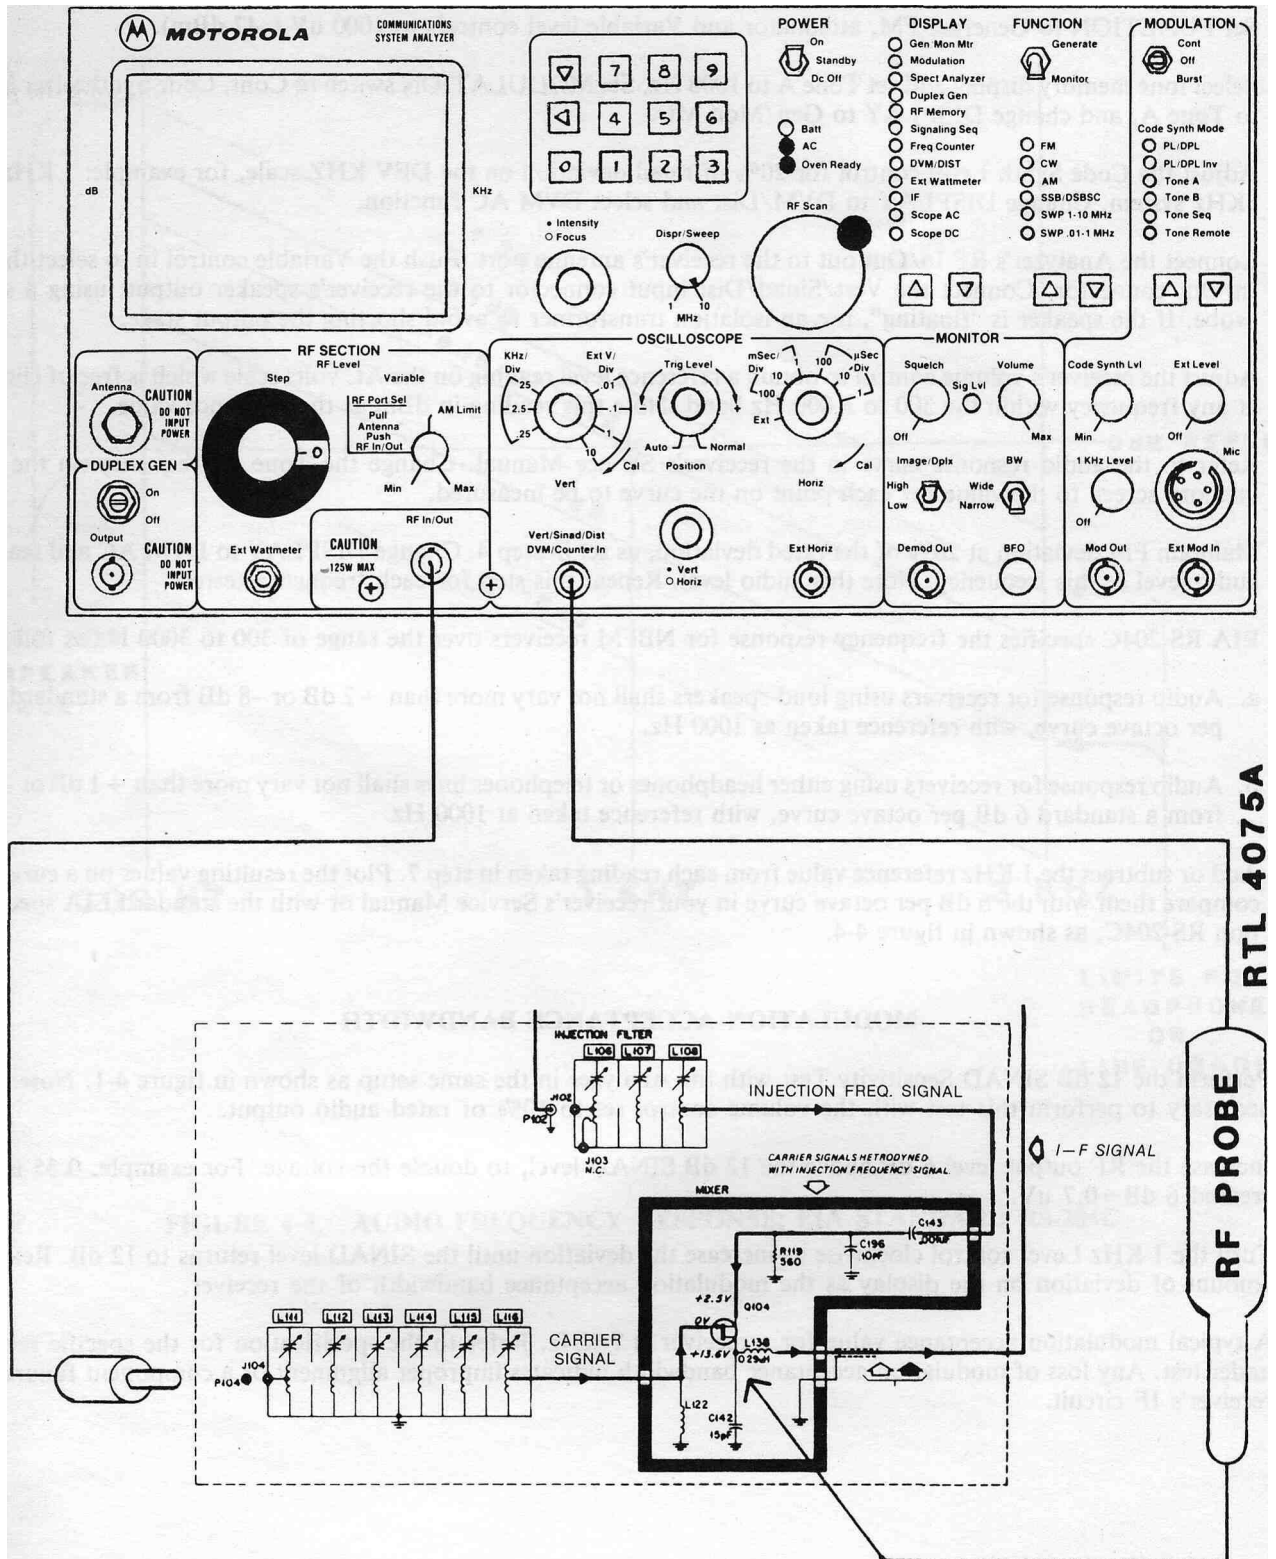

FIGURE 4.5. PROBE SETUP
1. Connect the Analyzer's RF In/Out to the antenna connector of the receiver under test. Connect the Analyzer's Vert/Sinad/Dist to the RF probe. Connect the probe to the first available low impedance point following the preselector, as shown in figure 4-5.